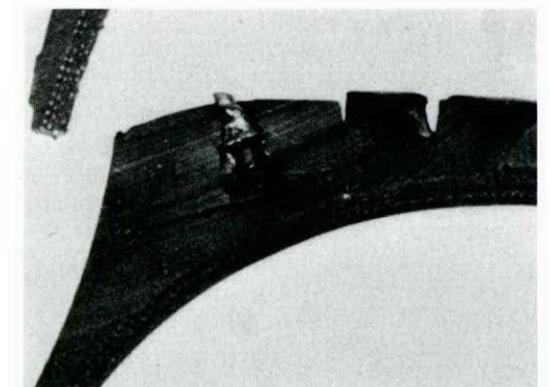

Figure 3
- ▶ Studs mounted off the vertical soon disintegrated, as Figure 3 shows.
Table III shows, not surprisingly, that more studs mean more traction. However, of even more significance is the number of lines achieved by the pattern. Figure 3 shows two stud patterns used in obtaining the results shown in Table III.